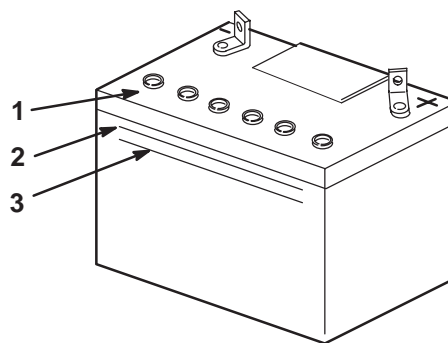

Figure 54
2. Look at the side of the battery. The electrolyte must be up to the **upper** line (Fig. 54). Do not allow the electrolyte to get below the **lower** line (Fig. 54).
3. Remove the vent caps from the battery (Fig. 54).
4. Slowly pour distilled water into each battery cell until the level is up to the **upper** line (Fig. 54) on the battery case.
- Wait five to ten minutes after filling the battery cells. Add distilled water, if necessary, until the electrolyte level is up to the **upper** line (Fig. 54) on the battery case.